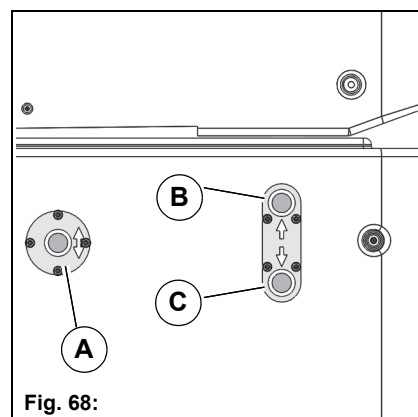

Fig. 68:
- Raise tipper body: Press the button **Fig. 68-A** and the button **Fig. 68-B** simultaneously
- Lower tipper body: Press the button **Fig. 68-A** and the button **Fig. 68-C** simultaneously